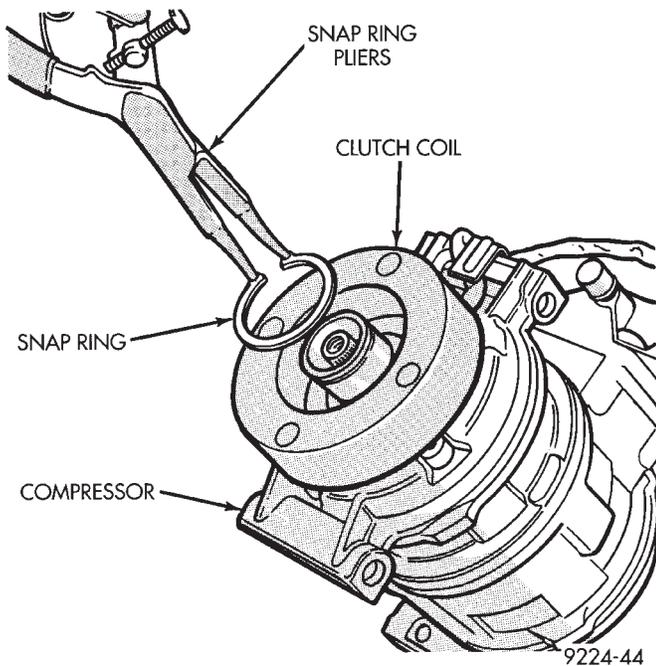

Fig. 33 Clutch Coil Snap Ring Remove/Install
(6) Remove the screw and retainer from the clutch coil lead wire harness on the compressor front housing.
(7) Remove the external snap ring that secures the compressor clutch coil to the nose of the compressor front housing with snap ring pliers and slide the coil assembly off of the compressor (Fig. 33).